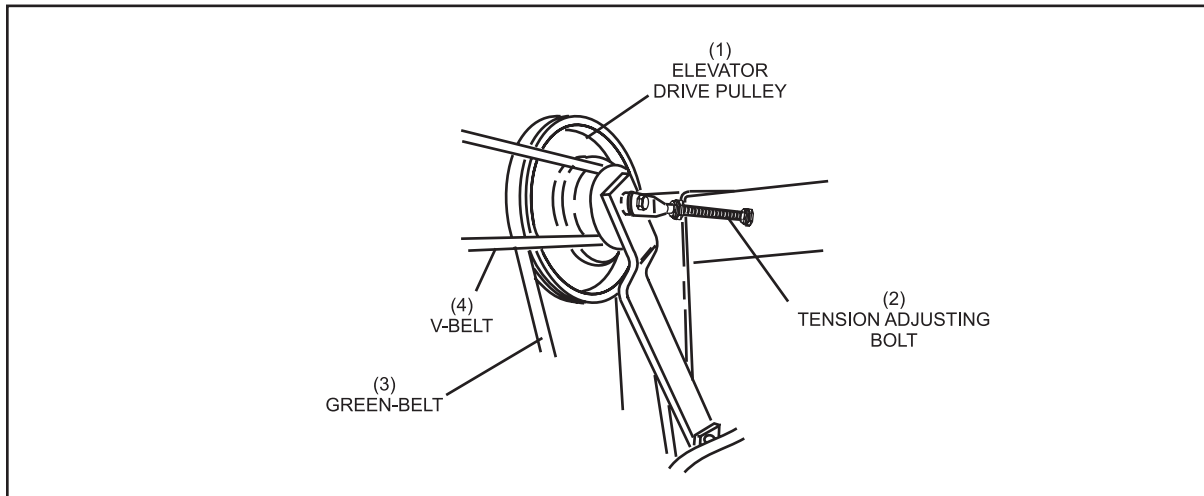

Figure 5-18. Tension Adjustment.
2. Loosen the tension adjusting bolt. Refer to *Figure 5-18*.